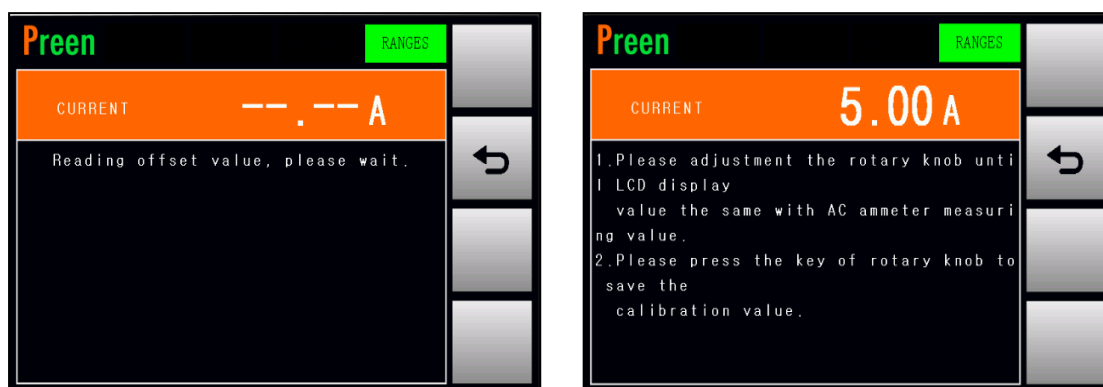

Figure 6.14 Enable the calibration of the HI-Range RMS current
3. Press the output & reset button on the front panel to enable the calibration of the HI-Range RMS current (refer to Figure 6.14), and then the product will start to output the voltage which is closed to 100V.